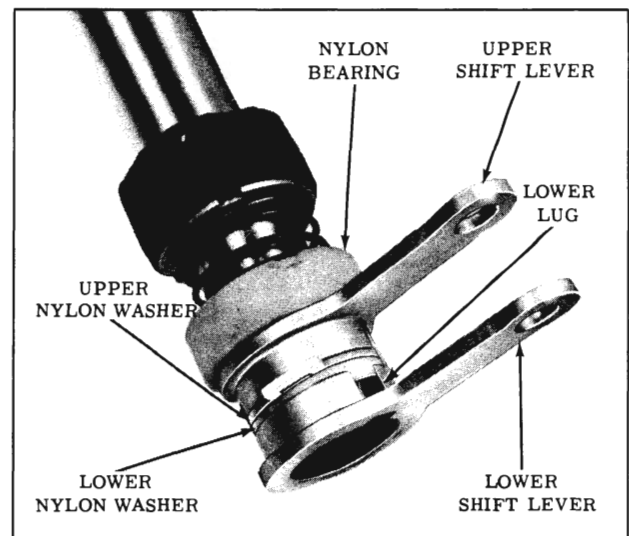

Fig. 4-297 Lever to Shift Tube Position
5. Slide one nylon washer onto the shift tube engaging the lug in the notch on the lever flange. (Fig. 4-297)
6. Slide the second nylon washer onto the shift tube with the locating lug toward the bottom of the column. (Fig. 4-297)